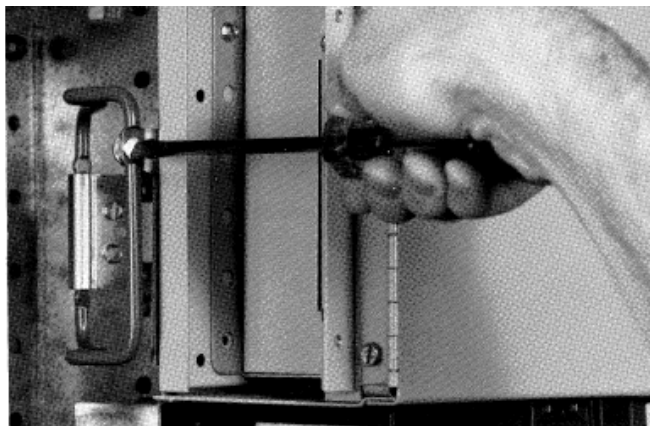

Figure 9. Locking the Voltage Module in place.
Step 3. Finally push inward until the Voltage Module pressure connectors are fully engaged (plugged) into the interior bus bars. Release the latches. The latches will automatically lock into the interior rail when the module is fully engaged and installed. Tighten the rail latch screw to bolt and lock the Voltage Module in Module pressure connectors are fully engaged (plugged) into place as shown in Figure 9.